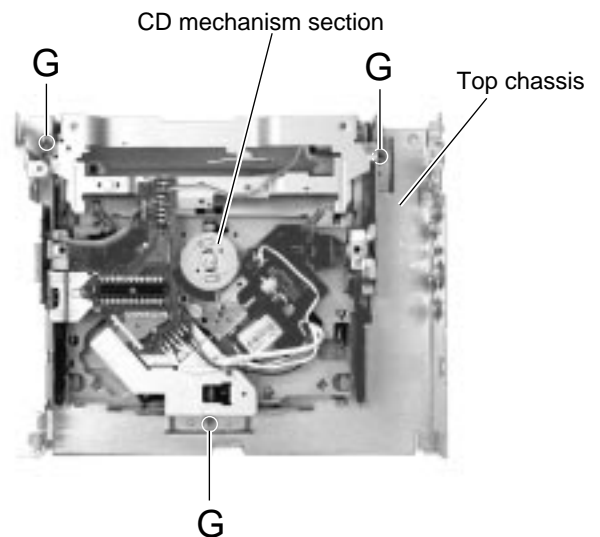

Fig.10
■ Removing the CD mechanism section (See Fig.10)